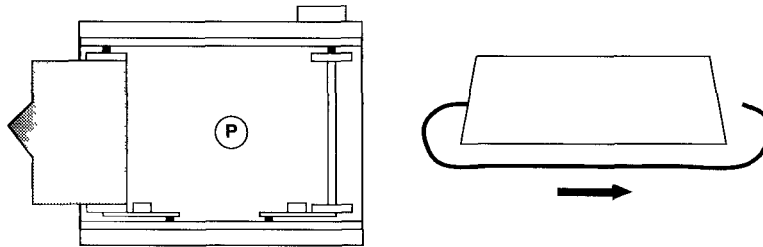

Figure 8.
Step 4: Unwrap the new roll of film and feed it around the cartridge. See Figure 8. The tab in the roll of film fits into a slot on the empty spool.